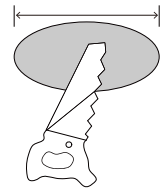

Fig. 2
2. Choose desired CCT & Wattage by adjusting the switch. (Fig. 2)